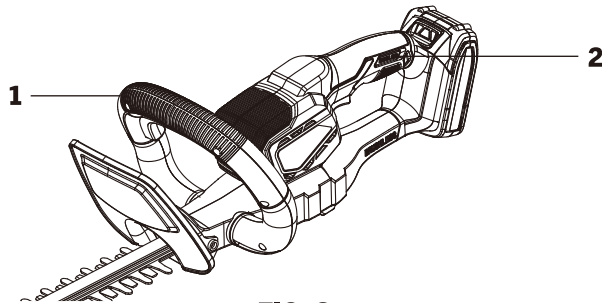

FIG. 8
Hold the tool by the auxiliary handle (1) Fig. 8 ensuring you are squeezing to activate the switch and then with the other hand simultaneously squeeze the trigger switch (2) Fig 8.